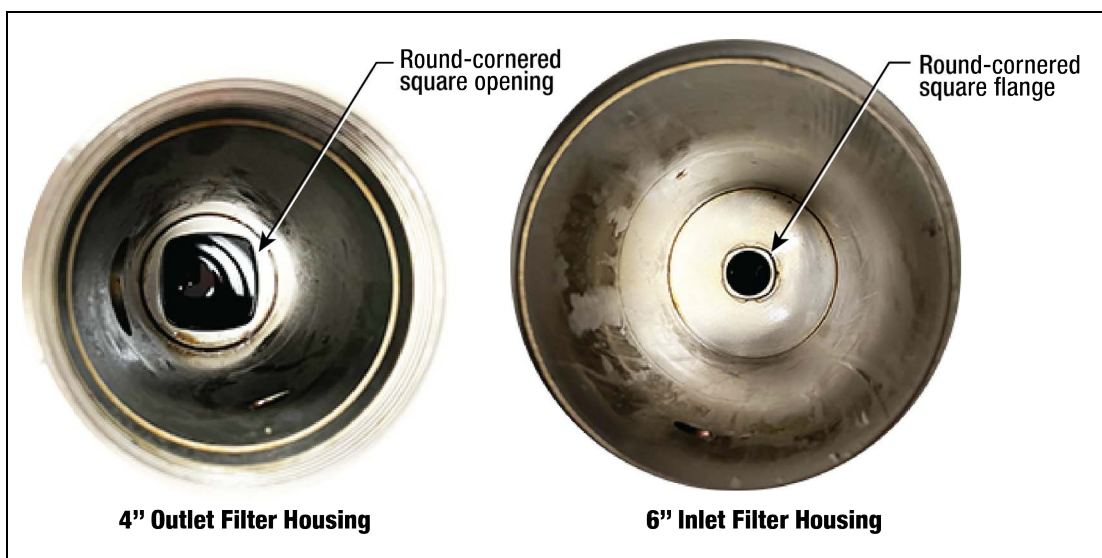

Figure 5.
9. Lower the grommet end of the 6" filter into the Inlet filter housing until it rests on the bottom. Rotate the filter left/right until the round-cornered square opening in the grommet is aligned onto the round-cornered square flange in the bottom of the housing. Push down firmly on the filter to seat it (see Figure 5).
10. Lower the round-cornered square end of the 4" filter into the Outlet filter housing until it rests on the bottom. Rotate the filter left/right until it 'drops' into the round-cornered square opening in the bottom of the housing. Push down firmly on the filter to seat it (see Figure 5).